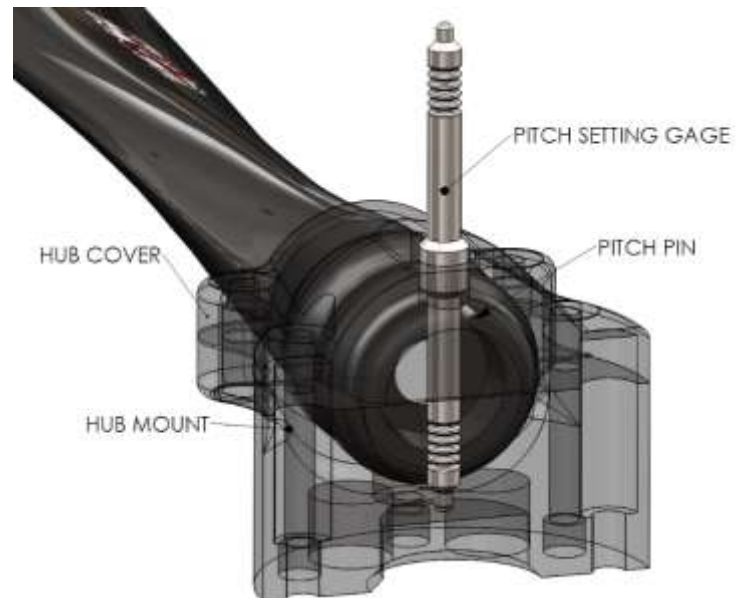

FIGURE 3. PITCH SETTING GAGE DETAIL
8. Insert the pitch setting gage through the clearance hole in the hub cover half and into the receiving hole in the hub mount half. See **Figure 3**. Be sure to use the nominal setting of 4 to start. The pitch setting # indicates relative pitch; pitch 5 is higher pitch than pitch setting 4, etc...
4. Insert the desired pitch setting gauge thru the clearance hole in the hub cover half and into receiving hole in the hub mount half. See **Figure 3.**